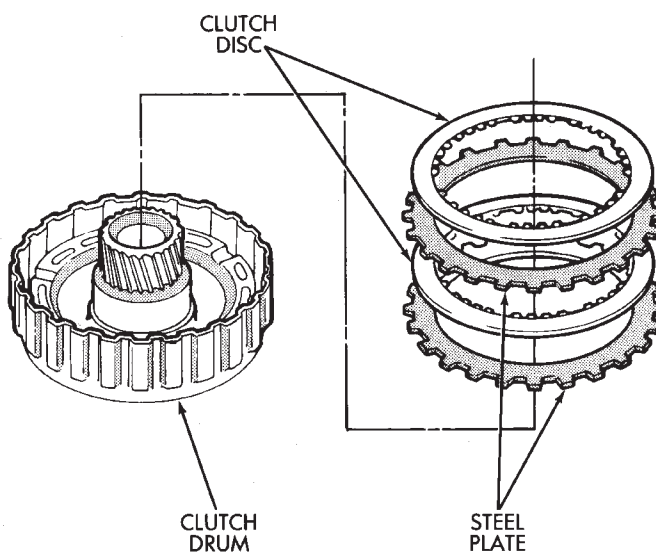

Fig. 25 Installing Clutch Discs And Plates
(12) Install clutch pack in drum. Install steel plate first, then a disc (Fig. 25). Continue installation sequence until required number of discs and plates have been installed.